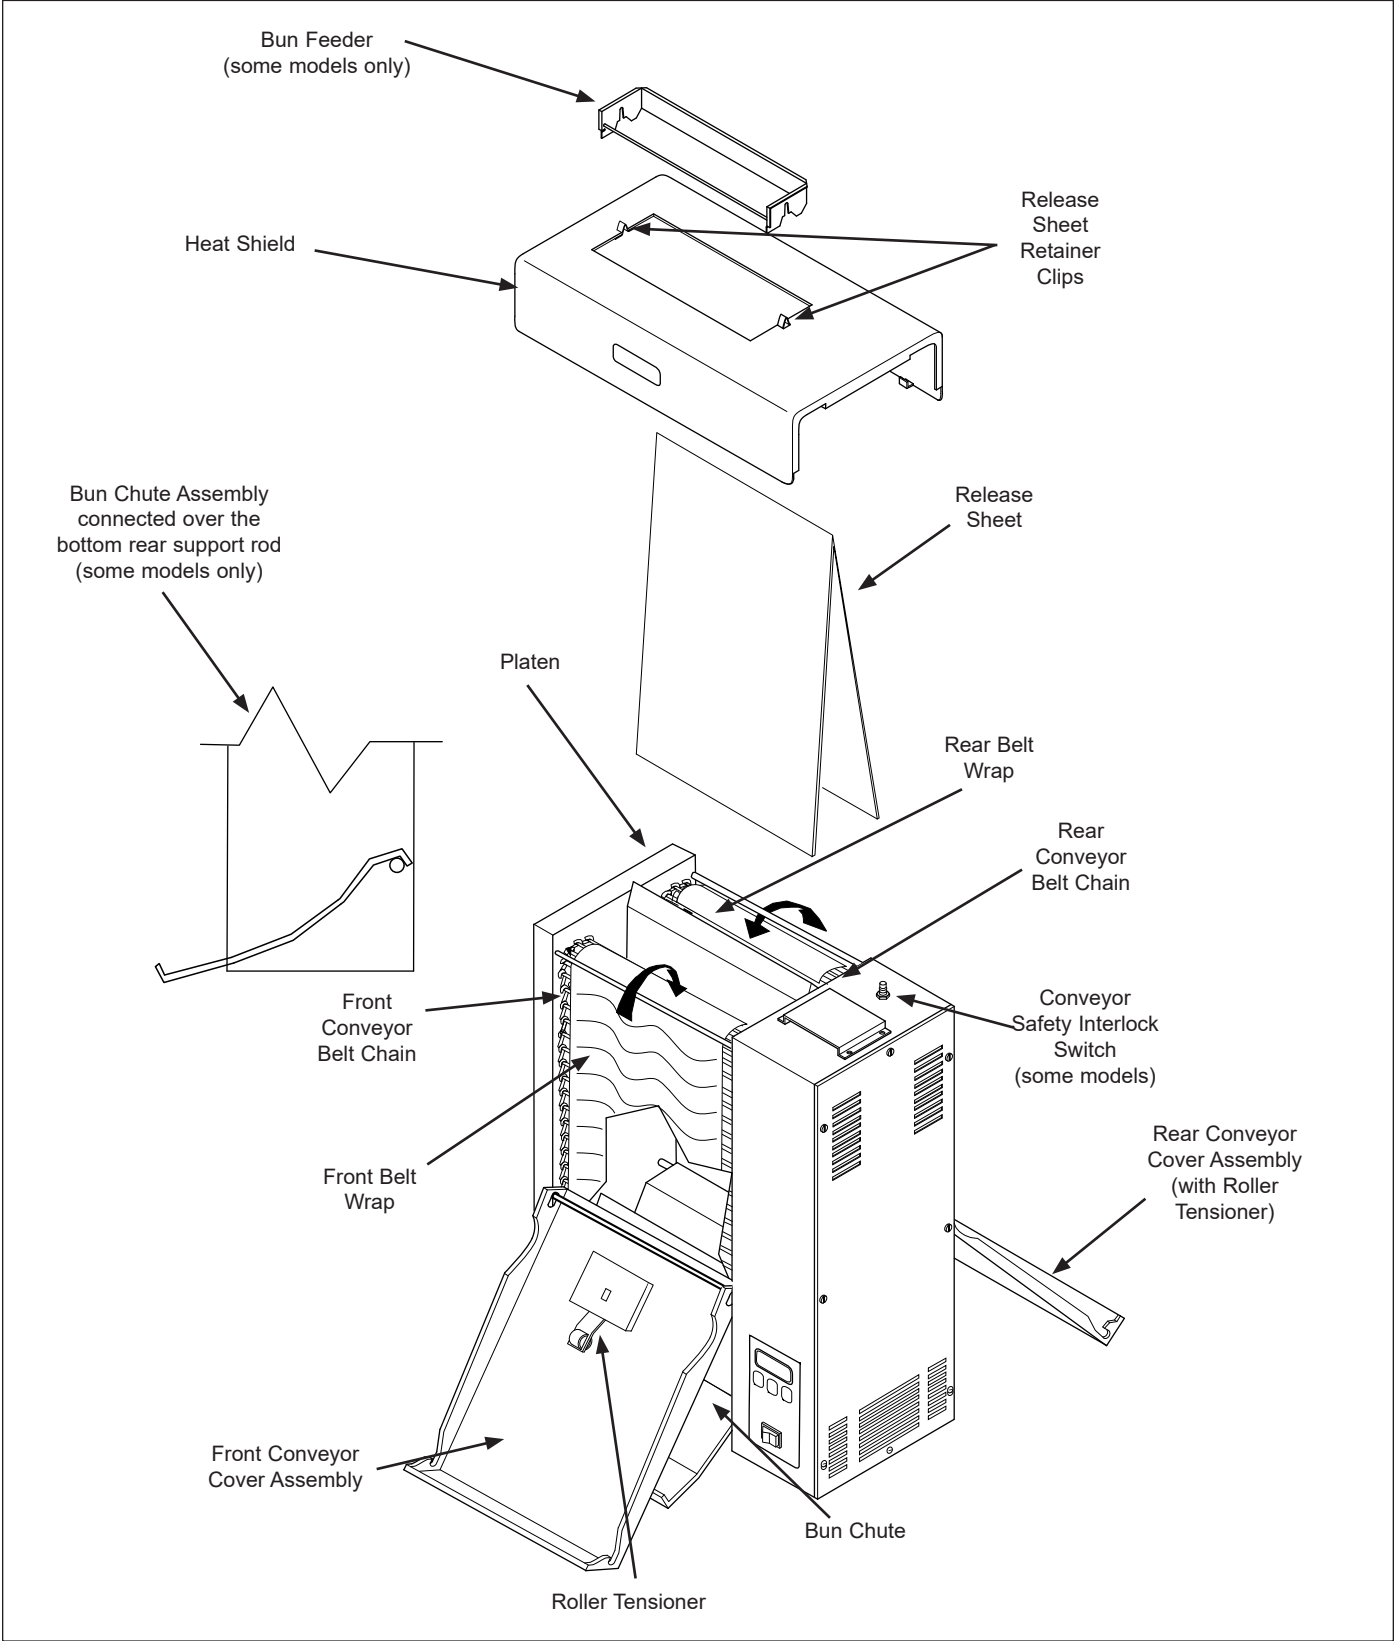

Figure 1. VCT-2000 Toaster
- Bun Chute (Figure 1) (some models only).
- Bun Feeder (Figure 1) (some models only).
- Two Release Sheets (Figure 1).
**NOTE: The factory has pre-installed a Release Sheet over the Platen (Figure 1). Verify that it is properly in place before proceeding.**
1. Remove Bun Chute and Bun Feeder from the box and install (Figure 1).